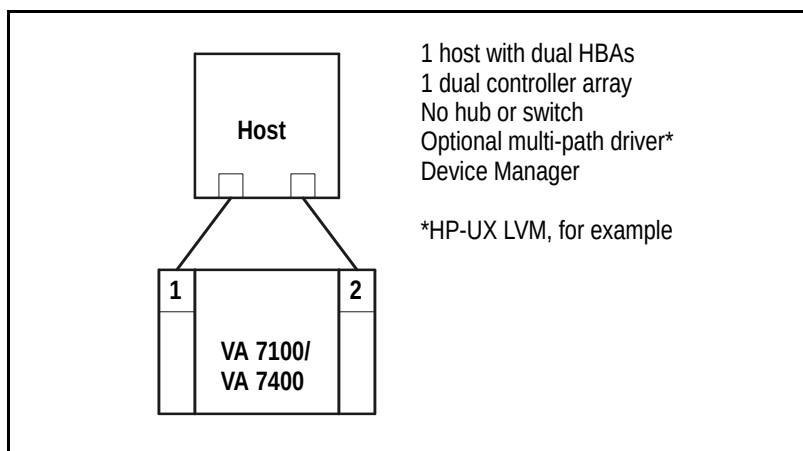

Figure 13 Low-End Non-Clustered with Optional Path Redundancy
- Low-end non-clustered with optional path redundancy (see Figure 13)